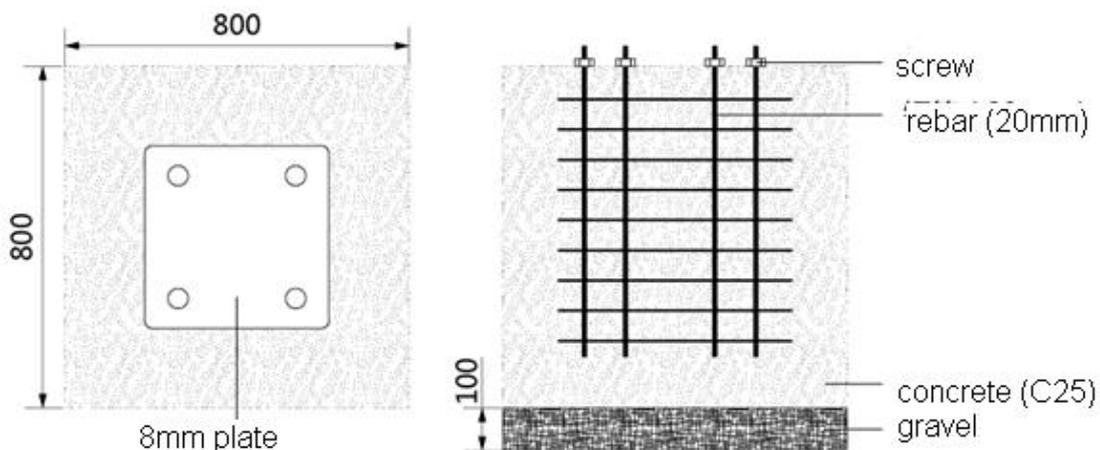

Figure 4-2
Step 4. Casting, see Figure 4-2.